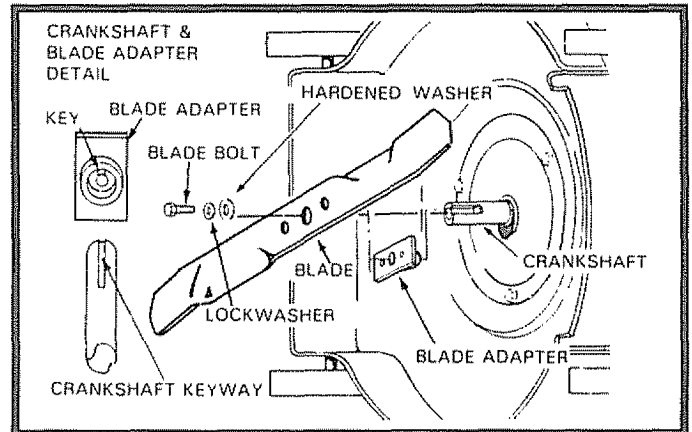

FIG. 18
- Remove Blade and attaching hardware (Bolt, Lockwasher and Hardened Washer) (See Fig. 18).
- Position Blade on to the Blade Adapter aligning the two (2) holes in the Blade with the raised lugs on the Adapter.
**NOTE:** Be sure the word TOP (stamped on the Blade) is toward the engine (See Fig. 18).
- Install the Blade Bolt with the Lockwasher and Hardened Washer into Blade Adapter and Crankshaft (See Fig. 18).